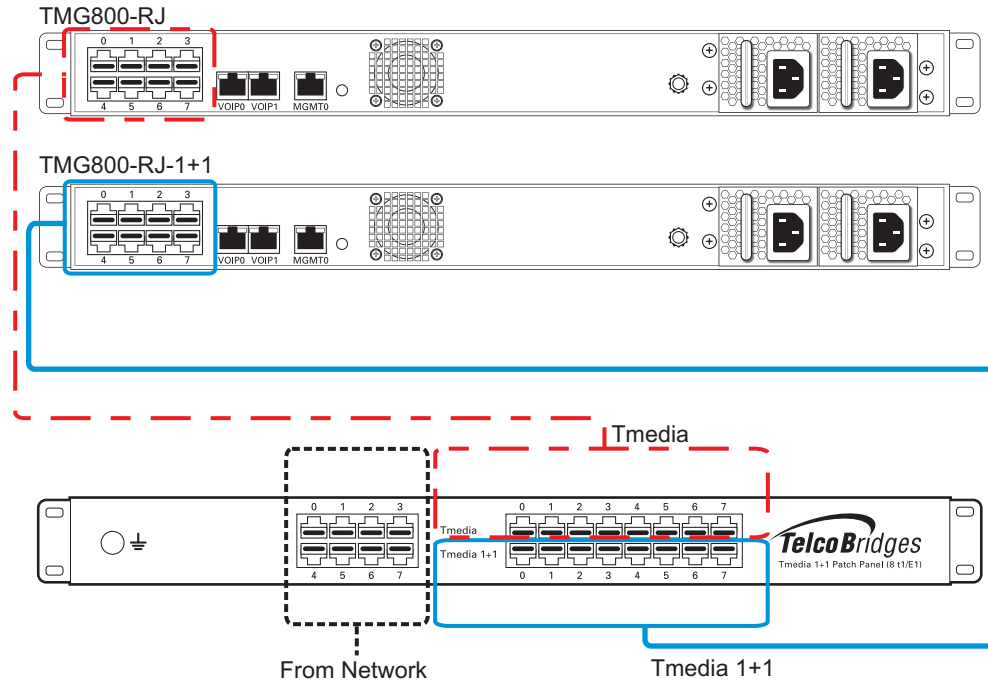

Figure 2.12 TMG800-RJ and TMG800-RJ-1+1 connecting to the TDM 1+1 8/T1/E1 patch panel
1. Connect T1/E1 lines 0-7 of the network section of the patch panel to the remote equipment. See figure 2.12 on page 26.